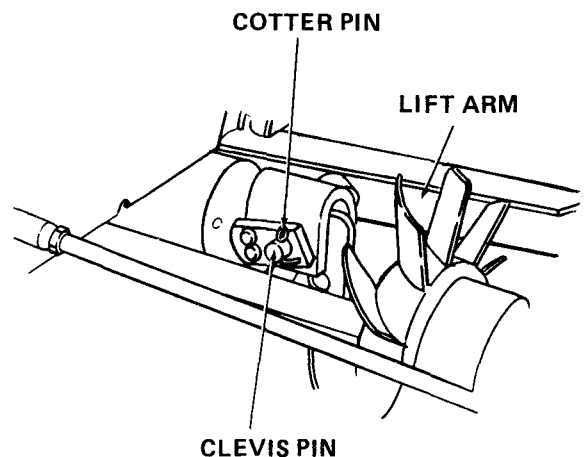

Figure B-15
- 5. Connect front end of implement lift bar (2) as follows (applies to Model 389 only). Refer to Figure B-15.